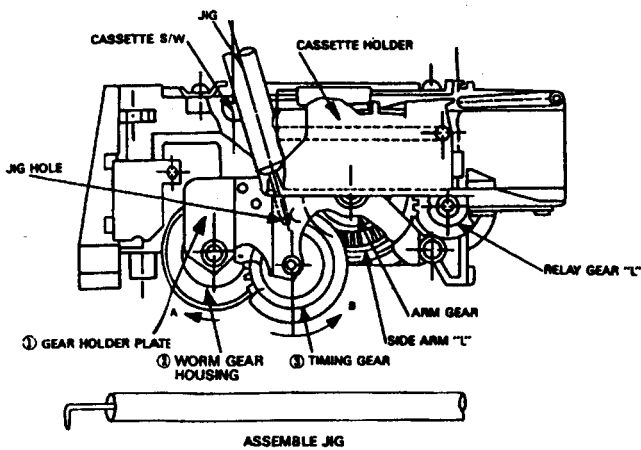

Fig.24
As shown in Fig.24, rotate the timing gear (3) and worm gear housing (2) to the direction of A and B, Aligned the hole of gear holder plate (1) and timing gear (3) and then insert the assembly jig in the hole to set-up the deck.